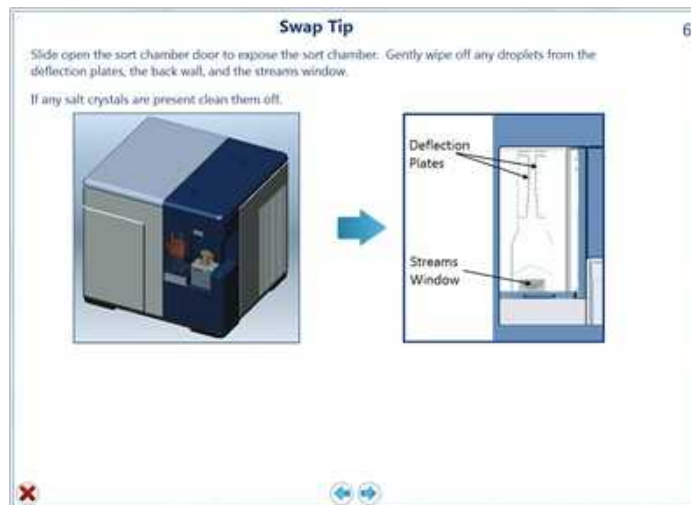

Fig. 118. AutoGimbal Swap Tip window.
24. Clean the sort chamber to ensure there are no stray droplets on the back wall, sort tray, or deflection plates, and that the streams camera window is clean (Figure 118).